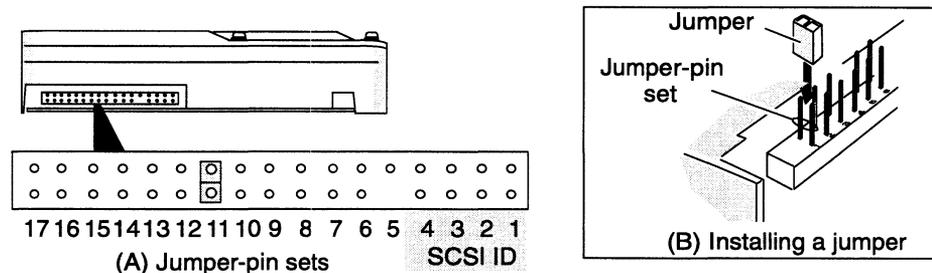

Figure 5 Jumper settings when the drive is installed in an AViiON 6966 mass-storage subsystem
1. For an AViiON 6966 mass-storage subsystem, install a jumper on jumper-pin set 11 (Figure 5).
2. Make sure no other jumpers are installed (Figure 5). The remaining jumper-pin sets do not require jumpers when you install the drive in an AViiON 6966 mass-storage subsystem.
5. Make sure no other jumpers are installed (Figure 5). The remaining jumper-pin sets do not require jumpers when you install the drive in an AViiON computer or mass-storage subsystem.